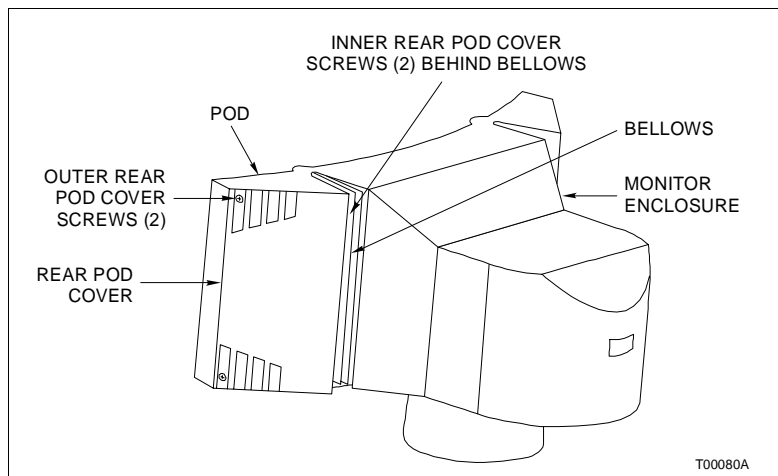

Figure PR65-1. Rear Pod Cover
2. Use the long Phillips head screwdriver to remove the two outer rear pod cover screws (Fig. PR65-1).